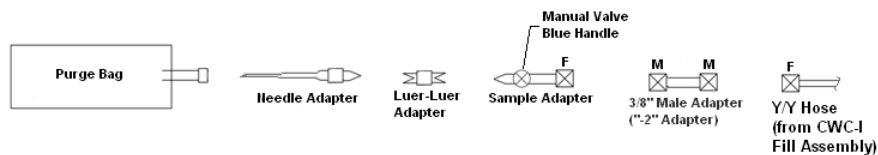

Figure 10-2.- CWC-I Fill Assembly purge hardware.
2. Assemble Purge hardware as shown in fig 10-2
1. De-mate all connections shown in fig 10-2